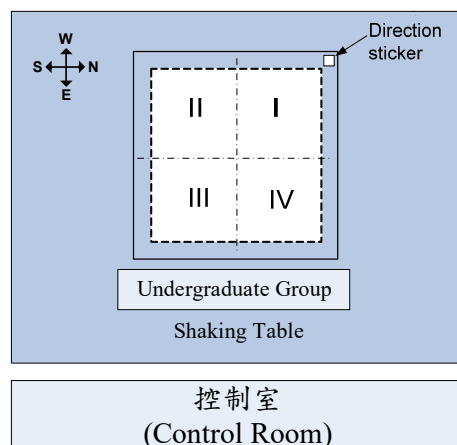

Figure 3. The orientation of the model fixed on the shaking table.
- 7.7 The side of the base board marked with a sticker is where the model should be built on. In addition, when mounting the model onto the shaking table, the sticker should be on the northwest corner (shown as Fig. 3). If there is any question about the relative positions or directions shown in Fig. 3, please ask the staffs/judges for assistance.